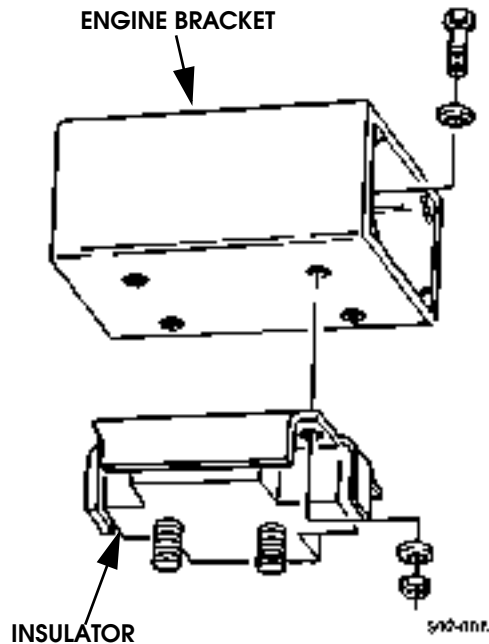

Figure 2-13: Engine Bracket and Insulator Assembly
12. Position insulator on engine bracket (Figure 2-13).